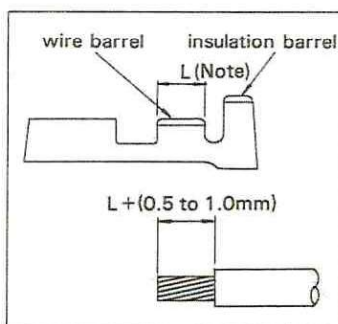
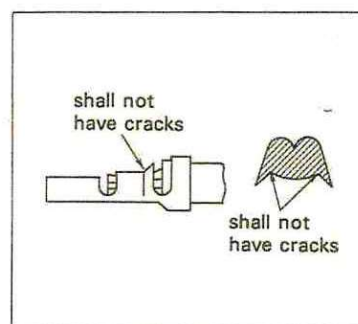

Fig. 4
Fig. 5
- (5) Now insert a wire, which is stripped per Fig. 4 into the barrels of the terminal.
- (6) Squeeze handles completely until the ratchet releases, holding the wire by hand in the proper position.
- (7) Open handles, remove the crimped terminal and inspect it. (See Fig. 5.)